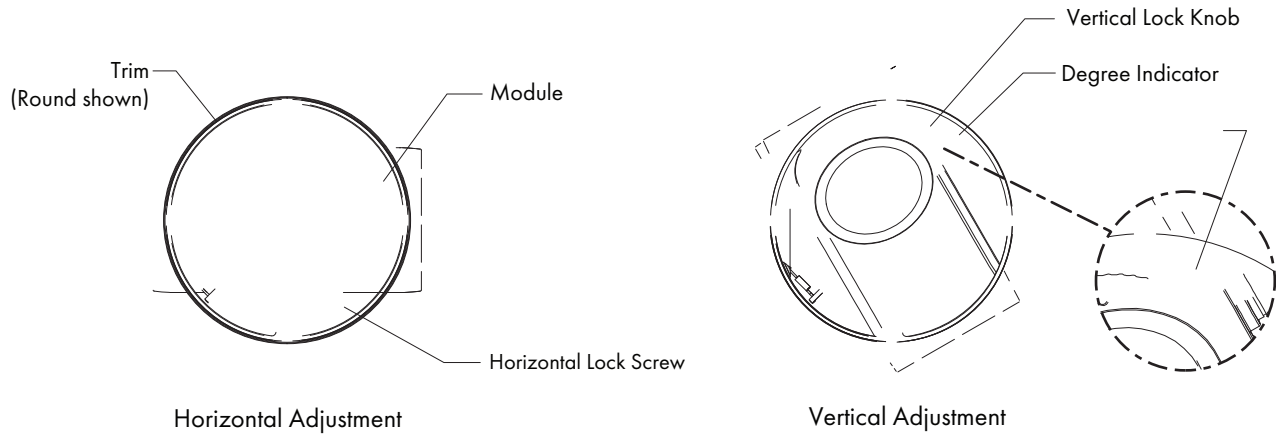

FIG 4.1 Aiming Adjustment
STEP 2 Loosen Vertical Lock Knob & adjust Module to desired vertical aiming position. Tighten Lock Knob to secure the vertical adjustment - **FIG 4.1**.